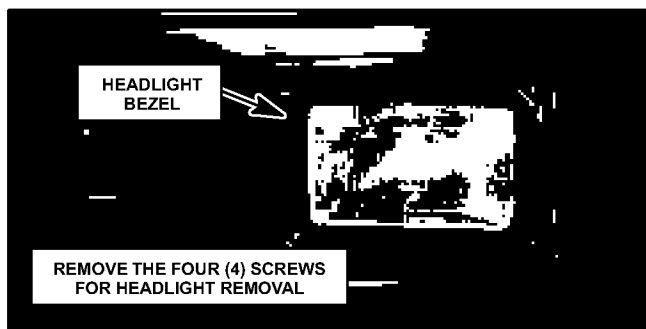

Figure 51
Remove the four (4) screws securing the headlight bezel to the front cowl (See Fig. 51).